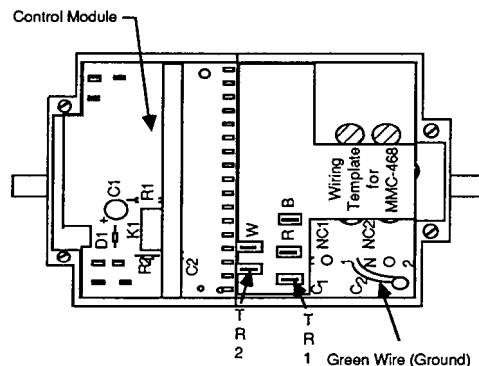

Figure-3 Terminal Board Connections with Wiring Template.
5. The template supplied can be used for easy terminal installation. Place the template over the terminal block (See Figure-3).